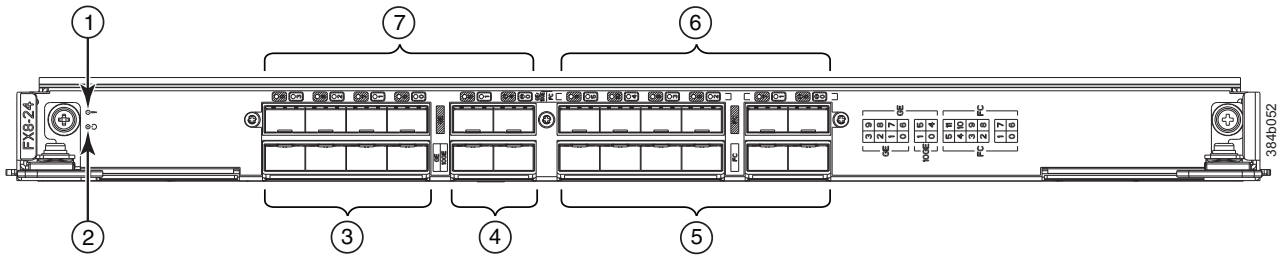

Figure 26. FX8-24 extension blade
- Figure 26 on page 53 illustrates the FX8-24 extension blade